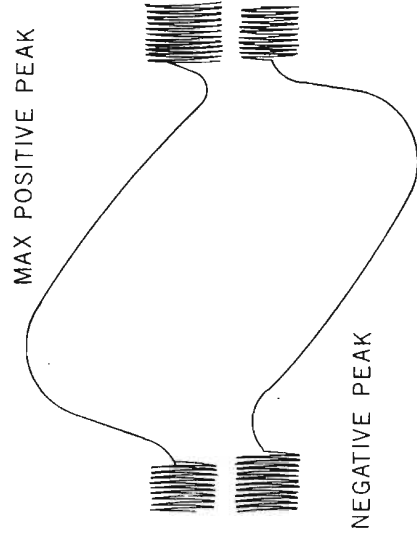

Fig. 3-2-3 "S" Curves at Peak
- Detune the top core in both directions to obtain maximum positive and negative output as shown in Fig. 3-2-3. Adjust R₃₁₉ (5k-B), the DC Balance, to obtain equal response when the core is peaked to provide either maximum negative or maximum positive output as shown in Fig. 3-2-3.